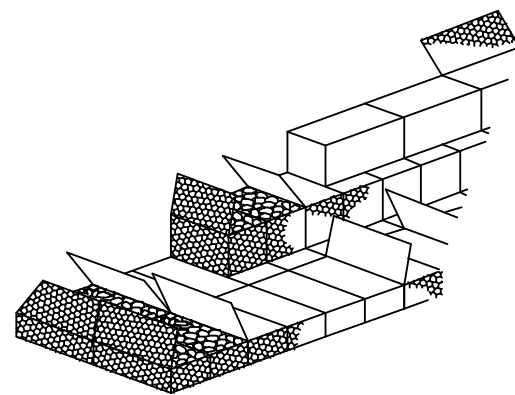

FIGURE 4
4. IT IS GOOD CONSTRUCTION PRACTICE TO LACE SMALL GROUPS OF GABION BOXES TOGETHER AS COMPLETE SECTIONS BEFORE JOINING THEM TO THE REST OF THE STRUCTURE, USING EXACTLY THE SAME METHOD AS FOR ASSEMBLING SINGLE BOXES. PLACE THEM FRONT TO FRONT AND BACK TO BACK, SO THAT PAIRS OF FACING LIDS CAN LATER BE WIRED DOWN SIMULTANEDUSLY (FIGURE 4).